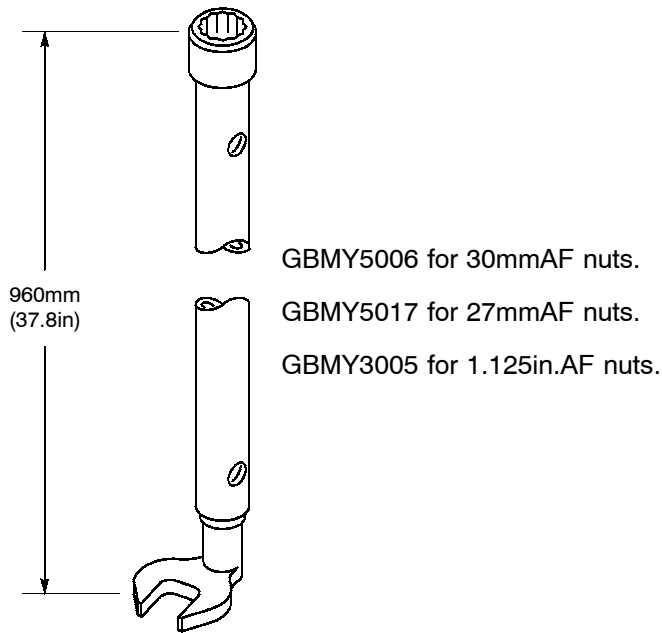
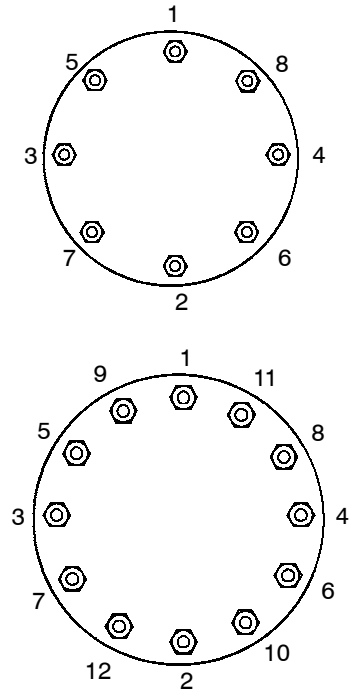

FIG 4.2 SPECIAL SPANNER
FIG 4.3 NUT TIGHTENING SEQUENCES
- 1.6 Using the special spanner (Fig 4.2) and a suitable torque wrench, tighten the nuts evenly, in stages, in the sequence shown in Fig 4.3. Finally torque the nuts to 15, 30, 60 and then 90 lb-ft (20, 40, 80 and 122 Nm).
- 1.10 Using the special spanner (Fig 4.2) and a suitable torque wrench. Tighten the bolts evenly, in stages, in the sequence shown in Fig 4.3. Finally torque the nuts to 15, 30, 60 and then 90 lb-ft (20, 40, 80 and 122 Nm).
- 2.4 Using the special spanner (Fig 4.2), remove the Pit Valve and gasket. If necessary refer to relevant Pit Valve manual. Return the Pit Valve for service or repair.
- 2.6 Using the special spanner (Fig 4.2) and a suitable torque wrench. Tighten the bolts evenly, in stages, in the sequence shown in Fig 4.3. Finally torque the nuts to 15, 30, 60 and then 90 lb-ft (20, 40, 80 and 122 Nm).